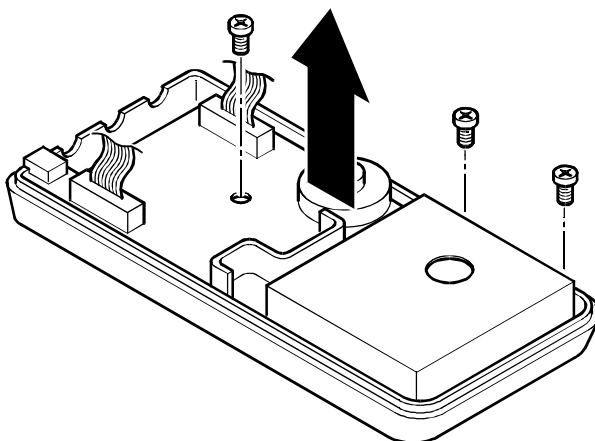

Figure 18: Handsfree PCB removal
3. (Figure 18) Remove the handsfree PCB (3 screws).